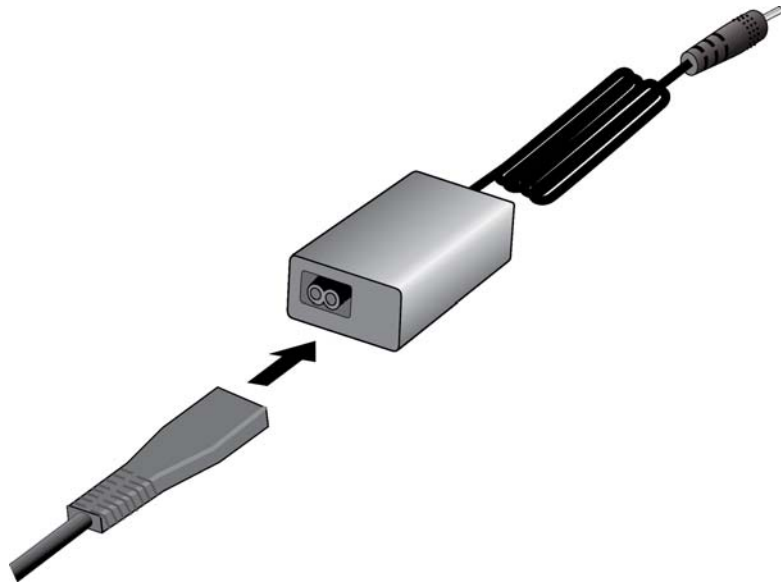

Figure 24. Connecting the AC Power Cord to the PWRADP-01 Power Adapter
1. If you purchased the PWRADP-01 Power Adapter, connect the AC power cord to the power adapter. Refer to Figure 24.